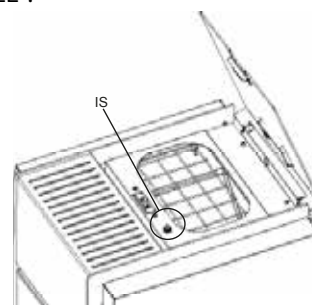

fig. 8.1
**After loading pellet, it is necessary to close the container's cover. The safety breaker switch (only in the models where it is present) checks whether it is closed (IS in fig. 8.1) and starts the alarm on the stove if the cover remains open for over 60 seconds while the stove is working.**